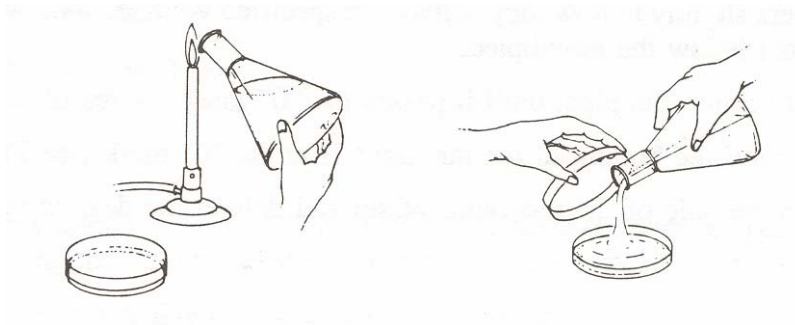

Figure 15.1. Steps in pouring an agar plate.
4. Flame the lip of the flask containing the agar medium, to kill any contaminants (see Figure 15.1).